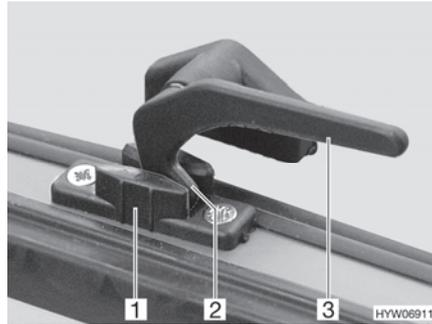

Fig. 48 Catch lever in "continuous ventilation" position
- "Continuous ventilation" (Fig. 48)
- Turn all catch levers (Fig. 48,3) a quarter turn towards the centre of the window.
- Return all catch levers to their initial position. The locking catch (Fig. 48,2) has to be moved into the recess of the window catch (Fig. 48,1).